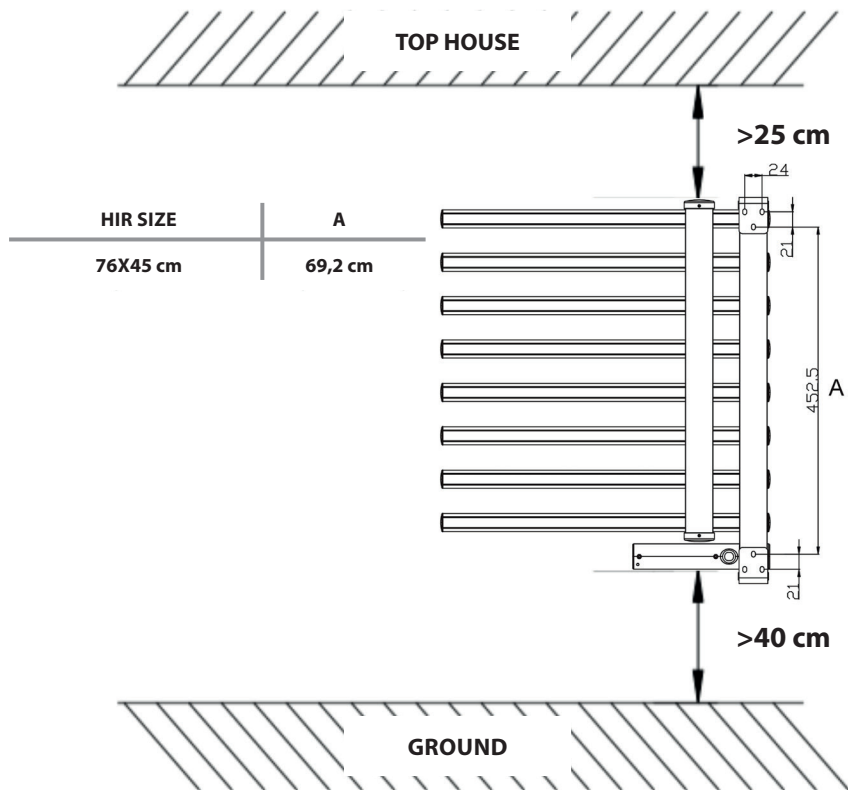
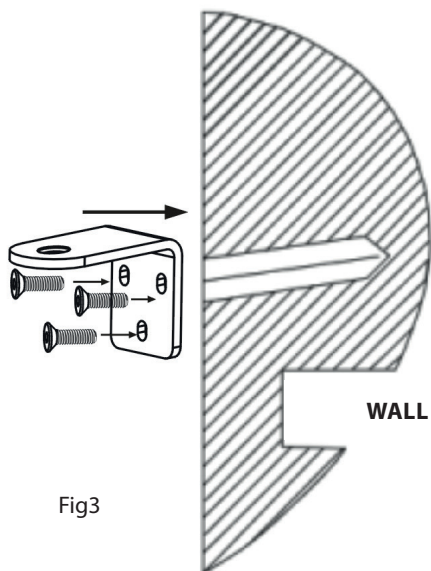

Fig2
Fig3
1. Please drill 4 holes of $\varnothing 8$ as per Fig 2 showed dimensions.
2. Put 4 expand tubes into the holes, and then fix the 4 "outer fixture" on the wall with the ST4x40 screws. Please see the Fig 3.
3. Mark the wall according to the dimensions shown in Figure 2. Use a 10 mm drill bit to drill 3 holes on the upper side and 3 holes on the lower side, with a hole depth of 45mm. Insert 8x40mm plastic wall plugs into the holes, then fasten the bracket to the wall with a screwdriver. See Fig 3